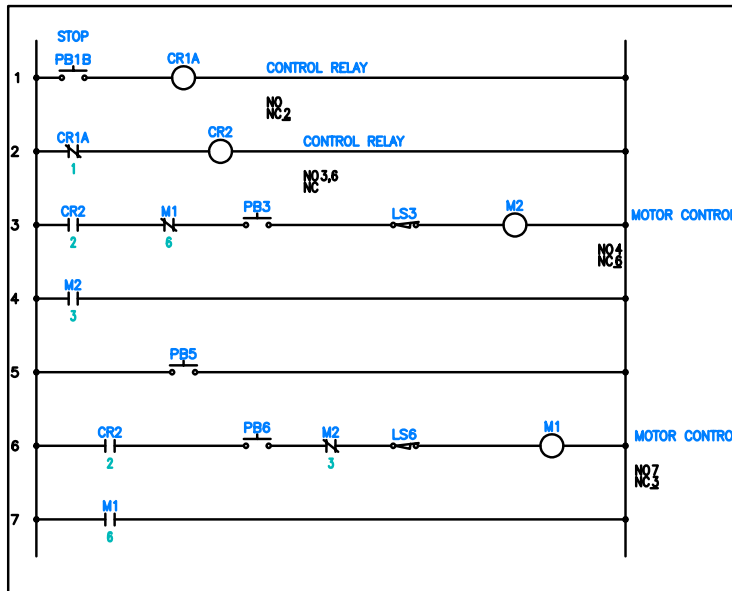

Figure 6-48 The copied components
12. Next, select limit switch LS3 from 3rd rung and copy it at **15,15**. Again, select LS3 and copy it at **16,13**. You will notice that the limit switch is inserted in rung 4 and rung 6. Keep the values in the **Description** area intact. Figure 6-48 shows the copied components.